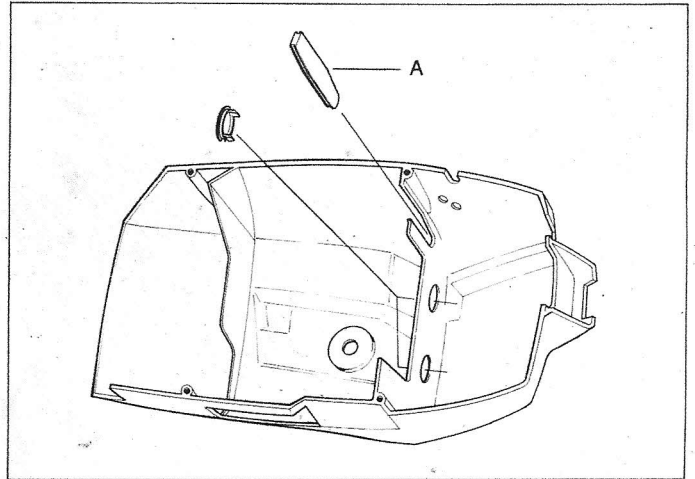

Fig. 21
In order to prevent cold intake air from entering the carburettor space, the covering plate (A) shall be mounted in the recess of the cylinder cover (see fig. 21). At normal temperatures the covering plate is to be kept in the pocket on the right side of the cover.